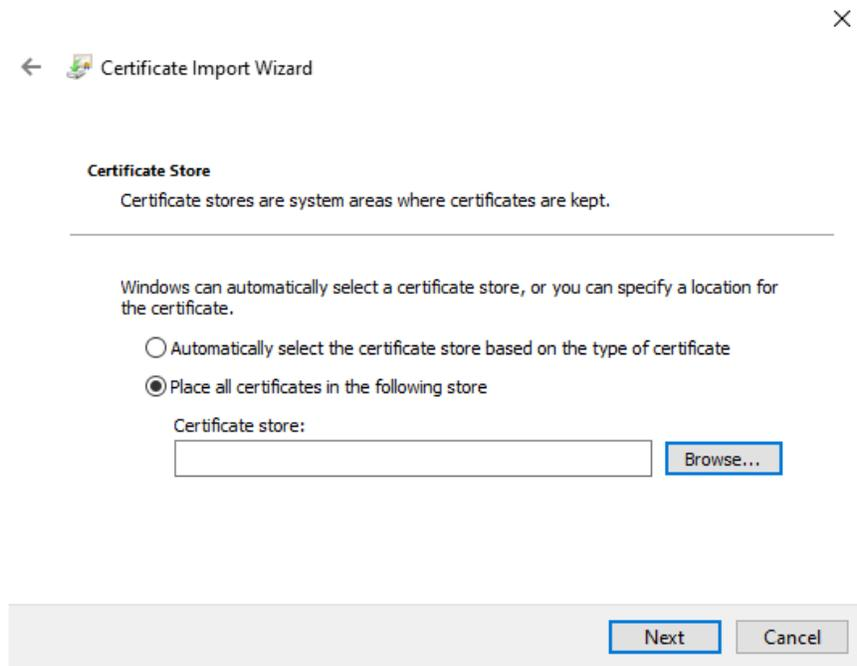

Figure 58: Specify Certificate to Import
- Click **Next**. The dialog show in Figure 58 appears.